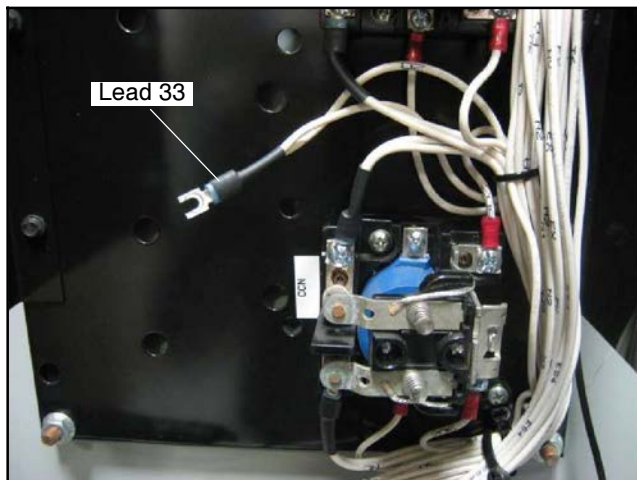
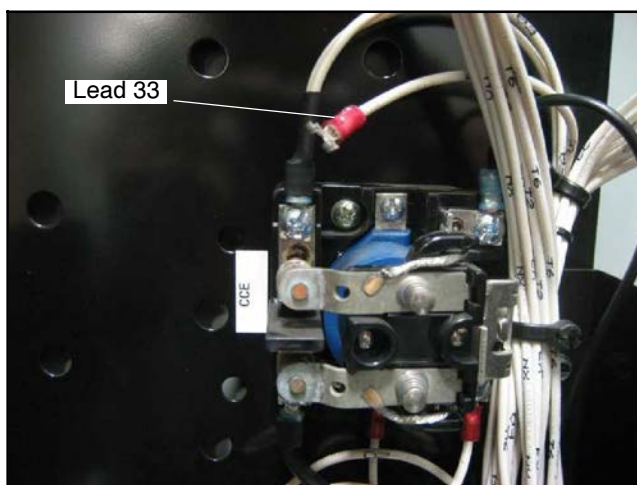

Figure 41 Cut Connector from Two Leads Labelled 33
Figure 42 Single Jumper Lead 33 (separate and discard)
27. Cut the terminal from the pair of leads marked 33 and separate the leads. See Figure 42. Discard the short jumper lead (33) that was connected from CCE-1 to CCN-1. See Figure 41. The remaining lead 33 will not be used.